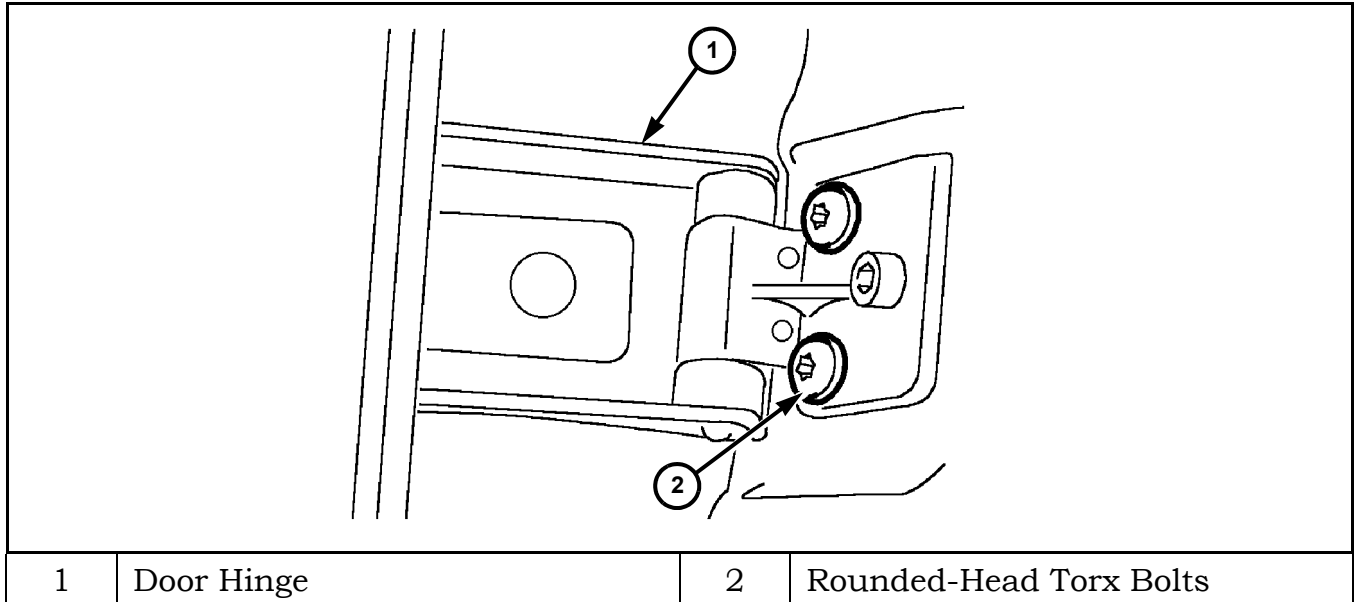

Figure 18 Rear Door Hinge Bolts
2. Open doors and loosen the hinge rounded-head torx bolts (Figure 18).